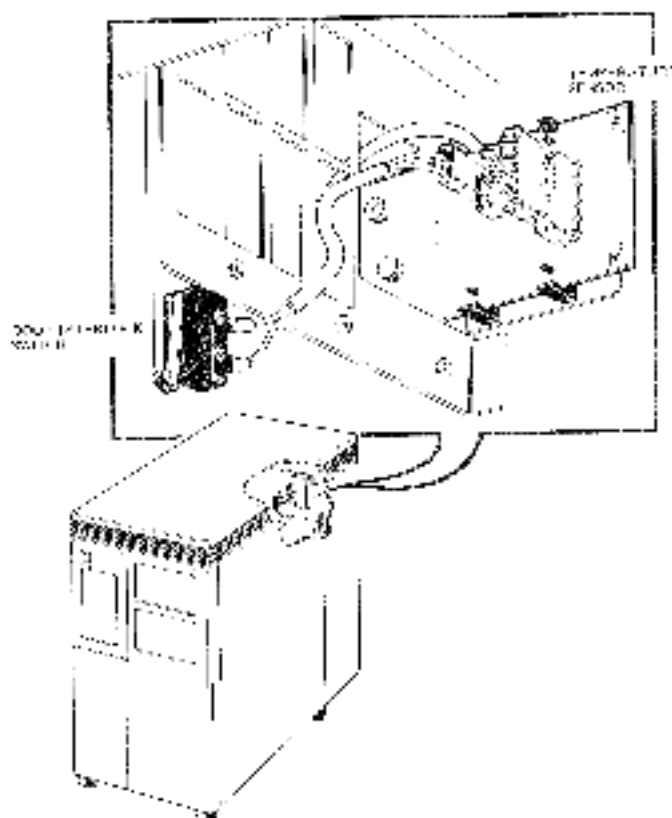

Figure 10-18 Temperature Sensor/Dexa Switch
3. Disconnect the cable connecting the switch to the temperature sensor as shown in Figure 10-18.
3. Disconnect the cable connecting the switch to the temperature sensor (Figure 10-18).